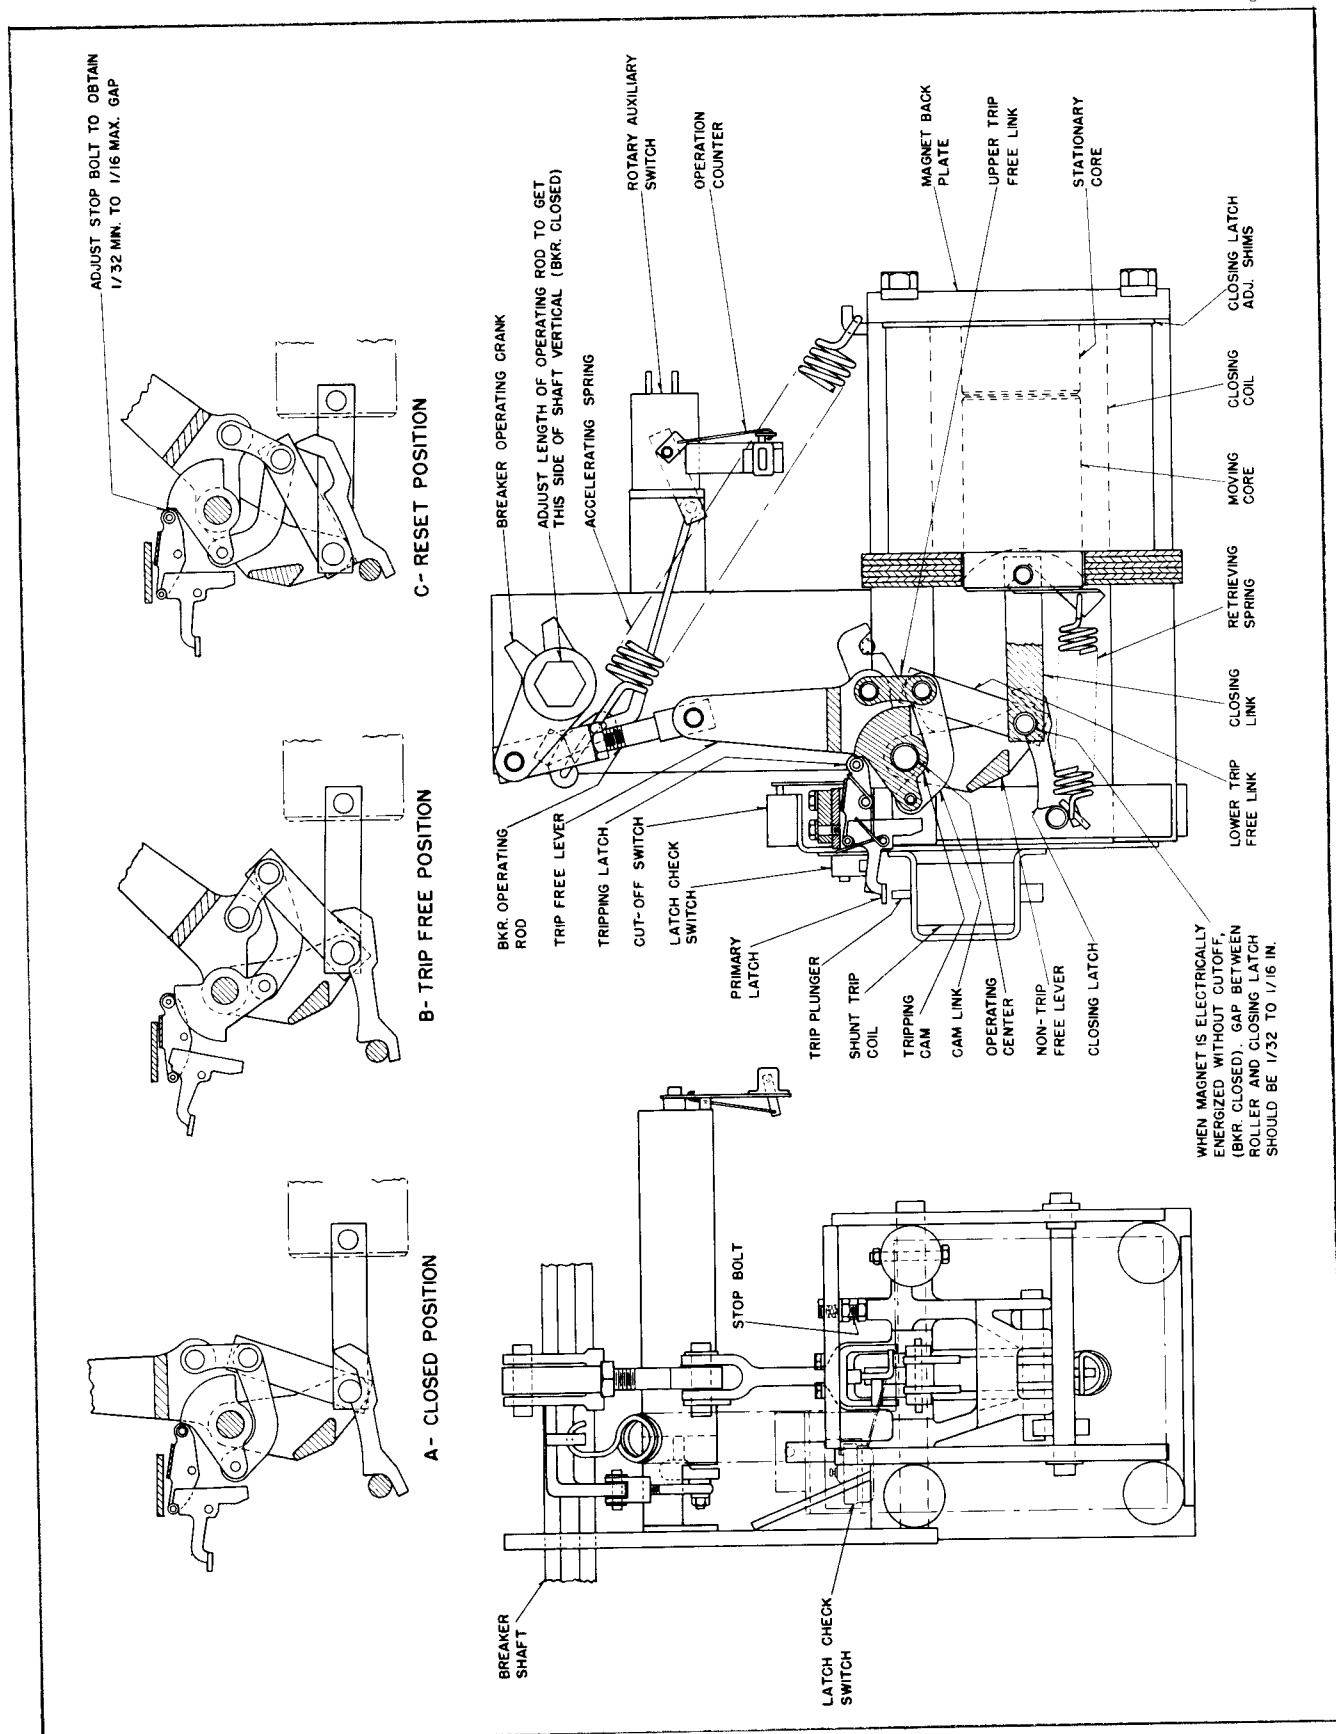

Fig. 9 Solenoid Operating Mechanism
3. Swing out relay panel, if one is included, and place hand closing lever in position to close the breaker. (See Figs. 9 and 15).
6. Pull up on hand closing lever in order to get enough over-travel to release the closing latch. Disengage closing latch with screw driver or small stick. (See Figs. 9 and 15).
exactly vertical. This position is controlled by adjusting the length of the operating rod to the solenoid mechanism. (See Fig. 9). These adjustments should not require change unless the parts have been disassembled for some reason.
The solenoid operating mechanism with its trip-free linkage is shown in Fig. 9. In this mechanism, the horizontal pull of the solenoid coil is transmitted to the contact operating rods through a system of links which rotate counterclockwise about the operating center. The linkage system consists of four (4) major links: the non-trip free lever, trip free lever, upper trip free link, and lower trip free link. These members are arranged as shown and are held to form a rigid member by the cam link and tripping cam. The tripping cam is held fixed by the tripping latch.
on one end. It is attached to the mechanism by guiding the pin which projects to the front of the mechanism from the "Operating Center" into the hole in the vertical plate, and the pin projecting from the closing link into the hole in the horizontal plate. The breaker is closed by rotating the lever from left to right. (See Figs. 9 and 15).
moves to the closed position, a probable cause is failure to reset. Refer to "C", Fig. 9. The gap indicated between the tripping latch roller and cam is an essential requirement to permit the tripping latch to fall into the cam notch. Watch the primary latch (with words "lift to trip"), it should return to the horizontal position immediately after breaker has been opened.
The latch check switch is a small, light force, snap action switch which is operated by the primary latch. When a breaker is to be automatically reclosed after being tripped free, it is necessary to arrange the electrical control scheme so that the closing solenoid will not be energized to start the closing motion until the mechanism has completed the linkage motion to get to the reset position. (See B and C of Fig. 9.) For this purpose, the switch is arranged to be closed when the primary latch is reset, because the primary latch is the last part to reset in the sequence of linkage motions required to reset the mechanism. The action of this switch may be checked as follows. With the breaker open, raise the primary latch arm to end of its travel. Lower it slowly listening for the snap action of the switch. Note the position of the arm when the switch snaps closed. The switch should close when the latch arm is in an interval from 3/8 to 1/8 inch above the normal reset position measuring at the shunt trip plunger centerline. If switch action must be made earlier or later, bend the switch arm near the middle of its length.